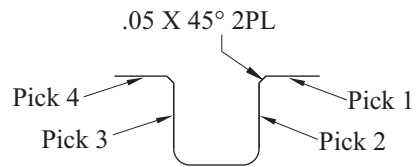

Figure 5-23 Selection Points for Chamfering
48. Pick the necessary lines, as shown in Figure 5-23, and press Enter to accept.